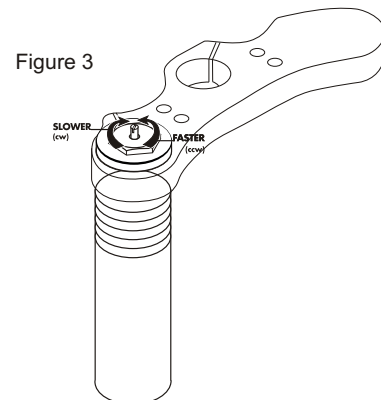

Figure 3
A) If your forks rebound too slowly, turn the adjustment screw on the top of the right fork leg one turn counter-clockwise (6 turns out is the maximum)(figure 3). The forks should absorb and return fast enough to absorb the next major obstacle. A sign that your forks are rebounding too slowly is if they feel like they pack-up or continue to compress as you go through rough sections.